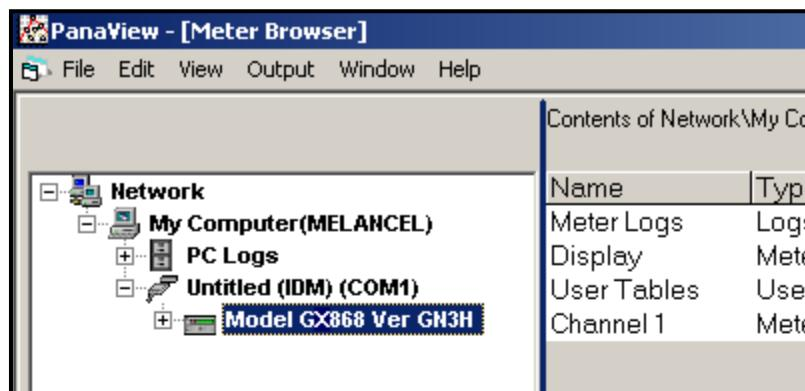

Figure 23: The Updated Network Tree
If the initialization is successful, the Meter Browser shows a listing similar to Figure 23.
1. Highlight the meter (as shown in Figure 23 on page 85).